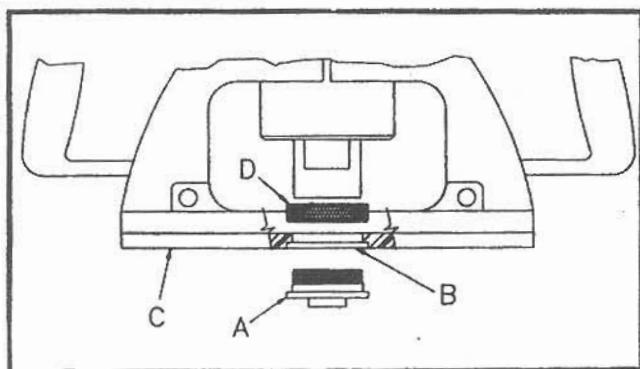
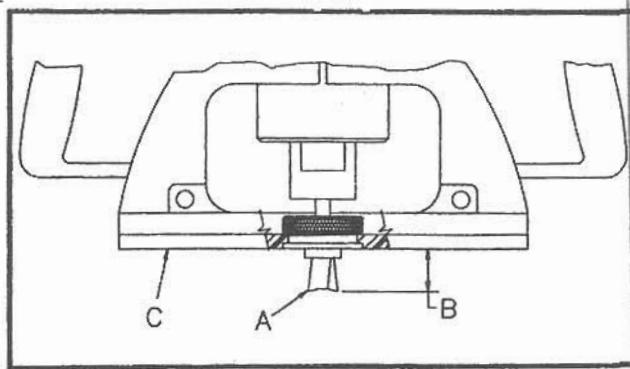

Fig. 4
Fig. 5
2. Insert templet guide, (A) Fig. 4, in hole (B), in router sub-base (C).
3. Install templet guide locknut (D) on templet guide and firmly tighten to lock templet guide in sub-base.
4. Insert dovetail bit, (A) Fig. 5, through templet guide into router collet.
5. Adjust router so dovetail bit projection (B) from bottom of router sub-base (C), is $19\frac{3}{32}$ ".